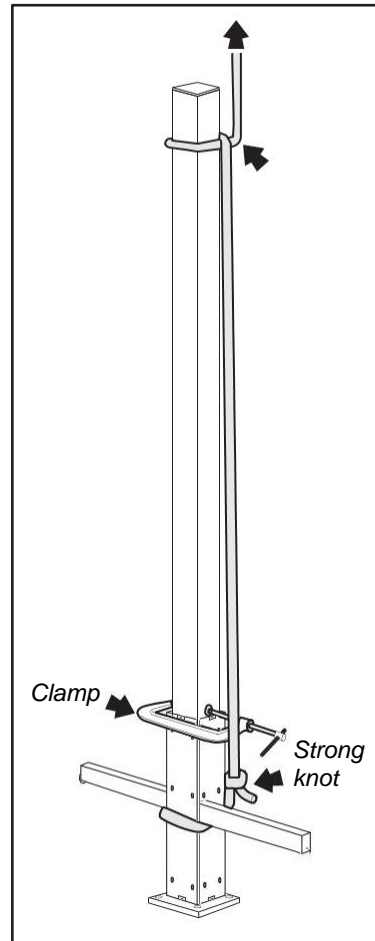

Figure 15
1. Install a sling system to allow lifting and positioning the column safely. For the sling, use web strapping in good condition, minimum strength of 1,000 lbs. (450Kg). Loop the webbing under the arms of the slide assembly, tie securely then loop the strap near the top of the column. Support the column along its entire length when it is lifted to vertical (Figure 15).